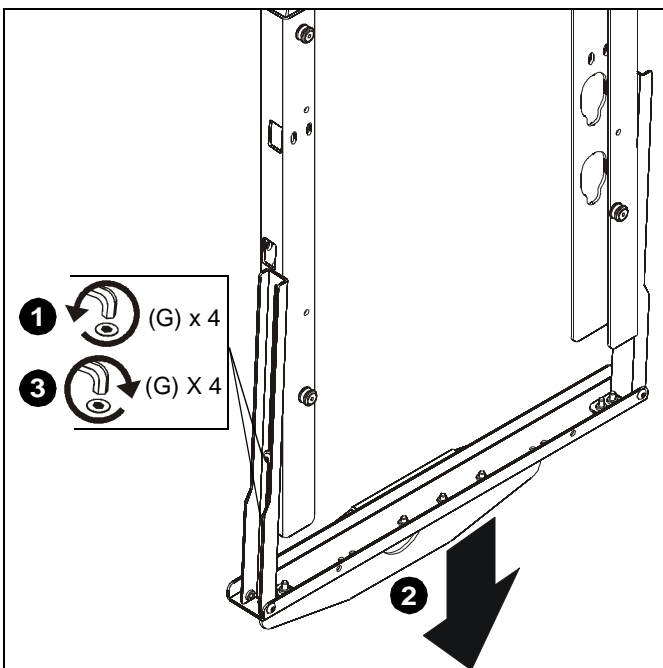

Figure 4
1. Loosen four #10-24 x 1/2" button head cap screws (G) securing height-adjust uprights (B) to left and right uprights. (See Figure 4)
2. Reposition speaker mounting bracket to lowest position. (See Figure 4)
3. Tighten four #10-24 x 1/2" button head cap screws (G) securing height-adjust uprights (B) to left and right uprights. (See Figure 4)